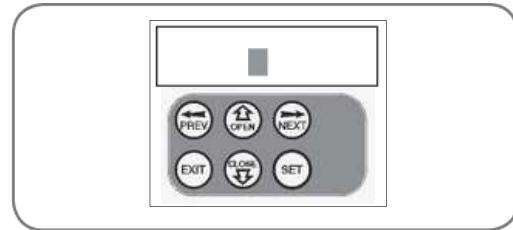

fig 27
2. Press UP or DOWN to change the displayed value (Fig. 27). The available functions are shown below. Selecting OFF will prevent the opener responding to that button.
3. Press SET to save changes or press NEXT or PREV to move to next field. The example in (Fig. 27) shows that PED is assigned to the transmitter button 2. The transmitter in the example is transmitter number 12 which has the ID label AB Smith.